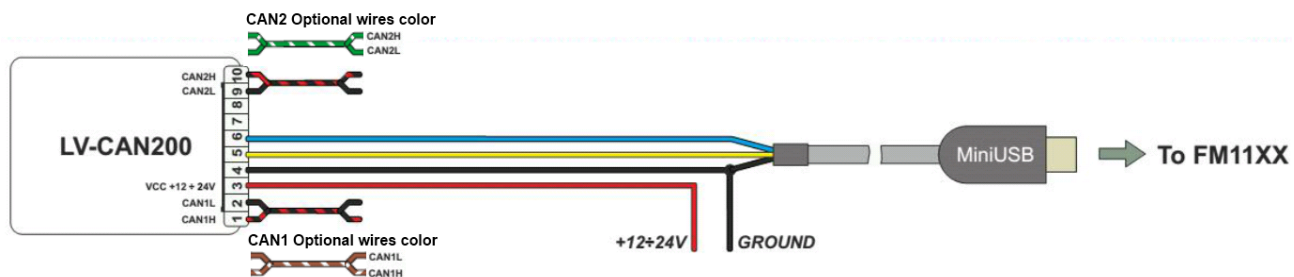

Figure 50 LV-CAN200 Adapter connection cable pinout
1. In car, connect LV-CAN200 to CAN bus and to the FM1111 device (Figure 50), wait 10 seconds. Note, that car engine must be started.